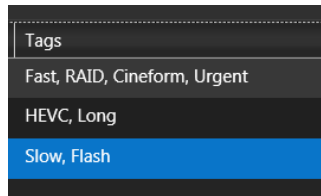

Figure 9. Our machines, tagged as above.
- Click OK to close the dialog and repeat as needed (Figure 9).